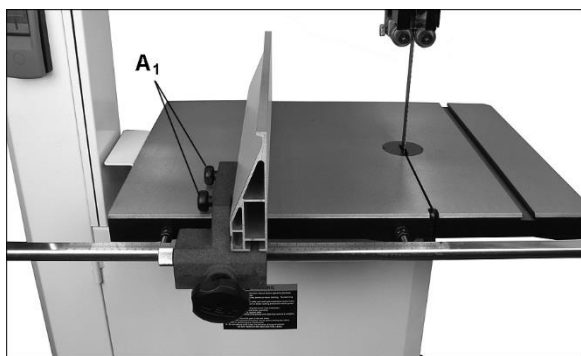
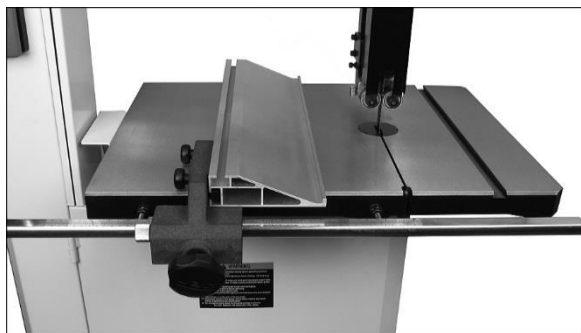

Fig 12: vertical
Fig 13: horizontal
Loosen knobs (A), Fig 12) to adjust the aluminium fence profile.
The fence profile can be installed in two positions, vertically (Fig 12) or horizontally (Fig 13).
For narrow shallow cuts on the rip fence, place the fence profile into the horizontal position (Fig 13).